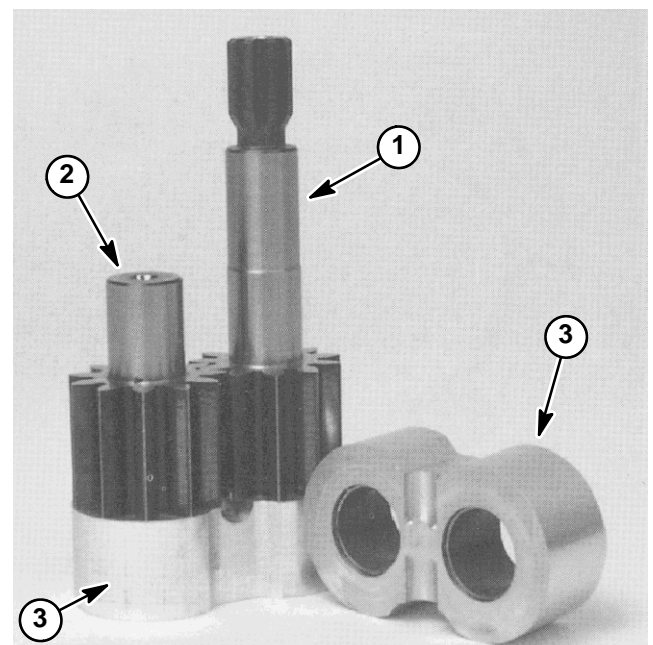

Figure 95
3. Inspect drive gear, idler gear and bearing blocks (Fig. 95) for the following: